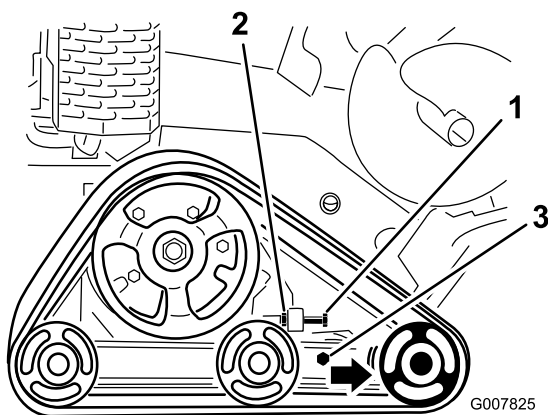

Figure 46
3. Loosen the jam nut on the track tensioning bolt and the clamp bolts on the tension arm (Figure 46).
4. Torque the tensioning bolt to 32.5 to 40 N·m (24 to 30 ft·lb) to tighten the track (Figure 46).
4. Back out the tensioning bolt and jam nut (Figure 46).
5. Loosen the clamp bolts (Figure 46).